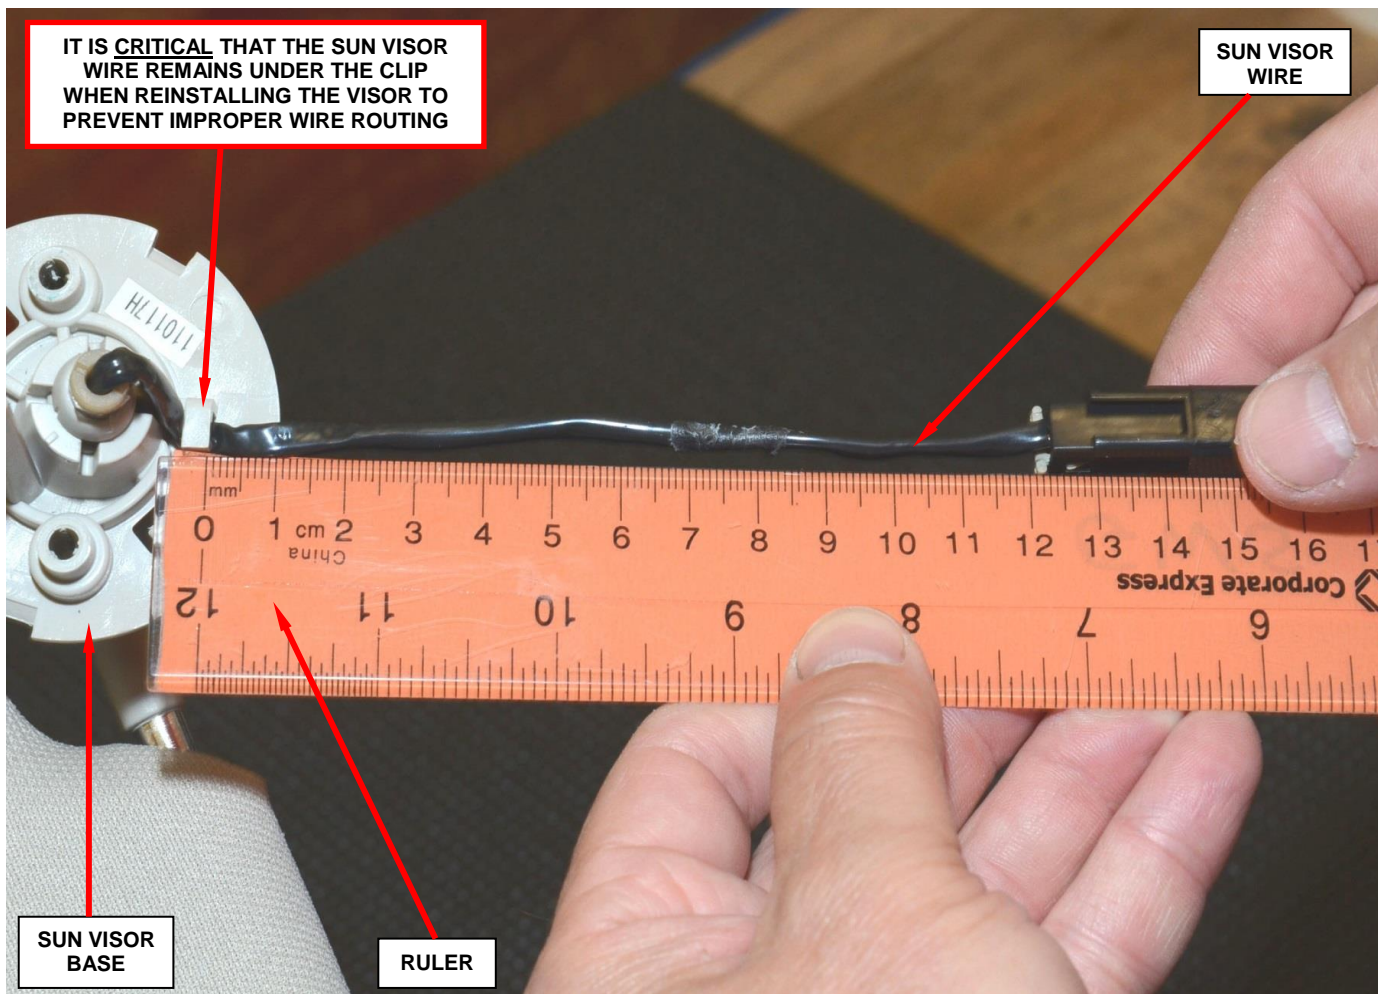

Figure 10 – Headliner Retaining Screw
24. Remove and save the headliner retaining screw (Figure 10).
38. Install the headliner retaining screw (Figure 10).